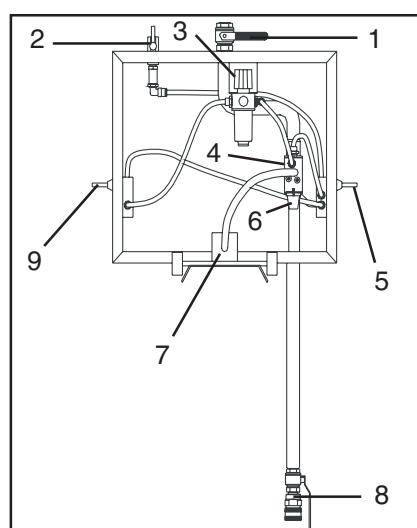

Fig. 7
**S3000, S3000 U, S3100, S3100 U** (fig. 7, User Pack).